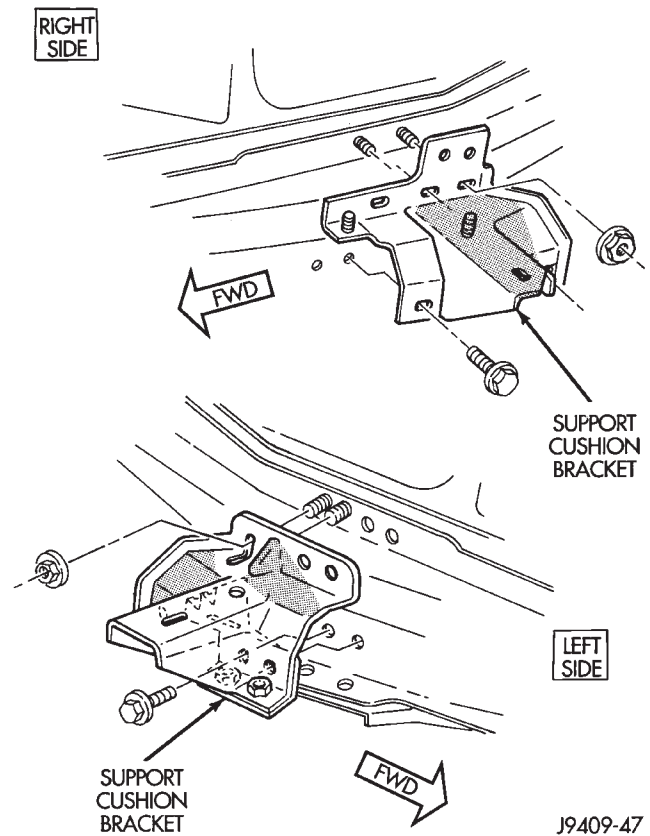

Fig. 8 Support Cushion Bracket—XJ Vehicles
(2) **ON XJ VEHICLES**, if the support cushion bracket was removed, position the bracket onto the lower front sill (Fig. 8). Install support cushion bracket bolts/nuts. Tighten the bolts to 54 N·m (40 ft. lbs.) torque. Tighten the nuts to 41 N·m (30 ft. lbs.) torque.